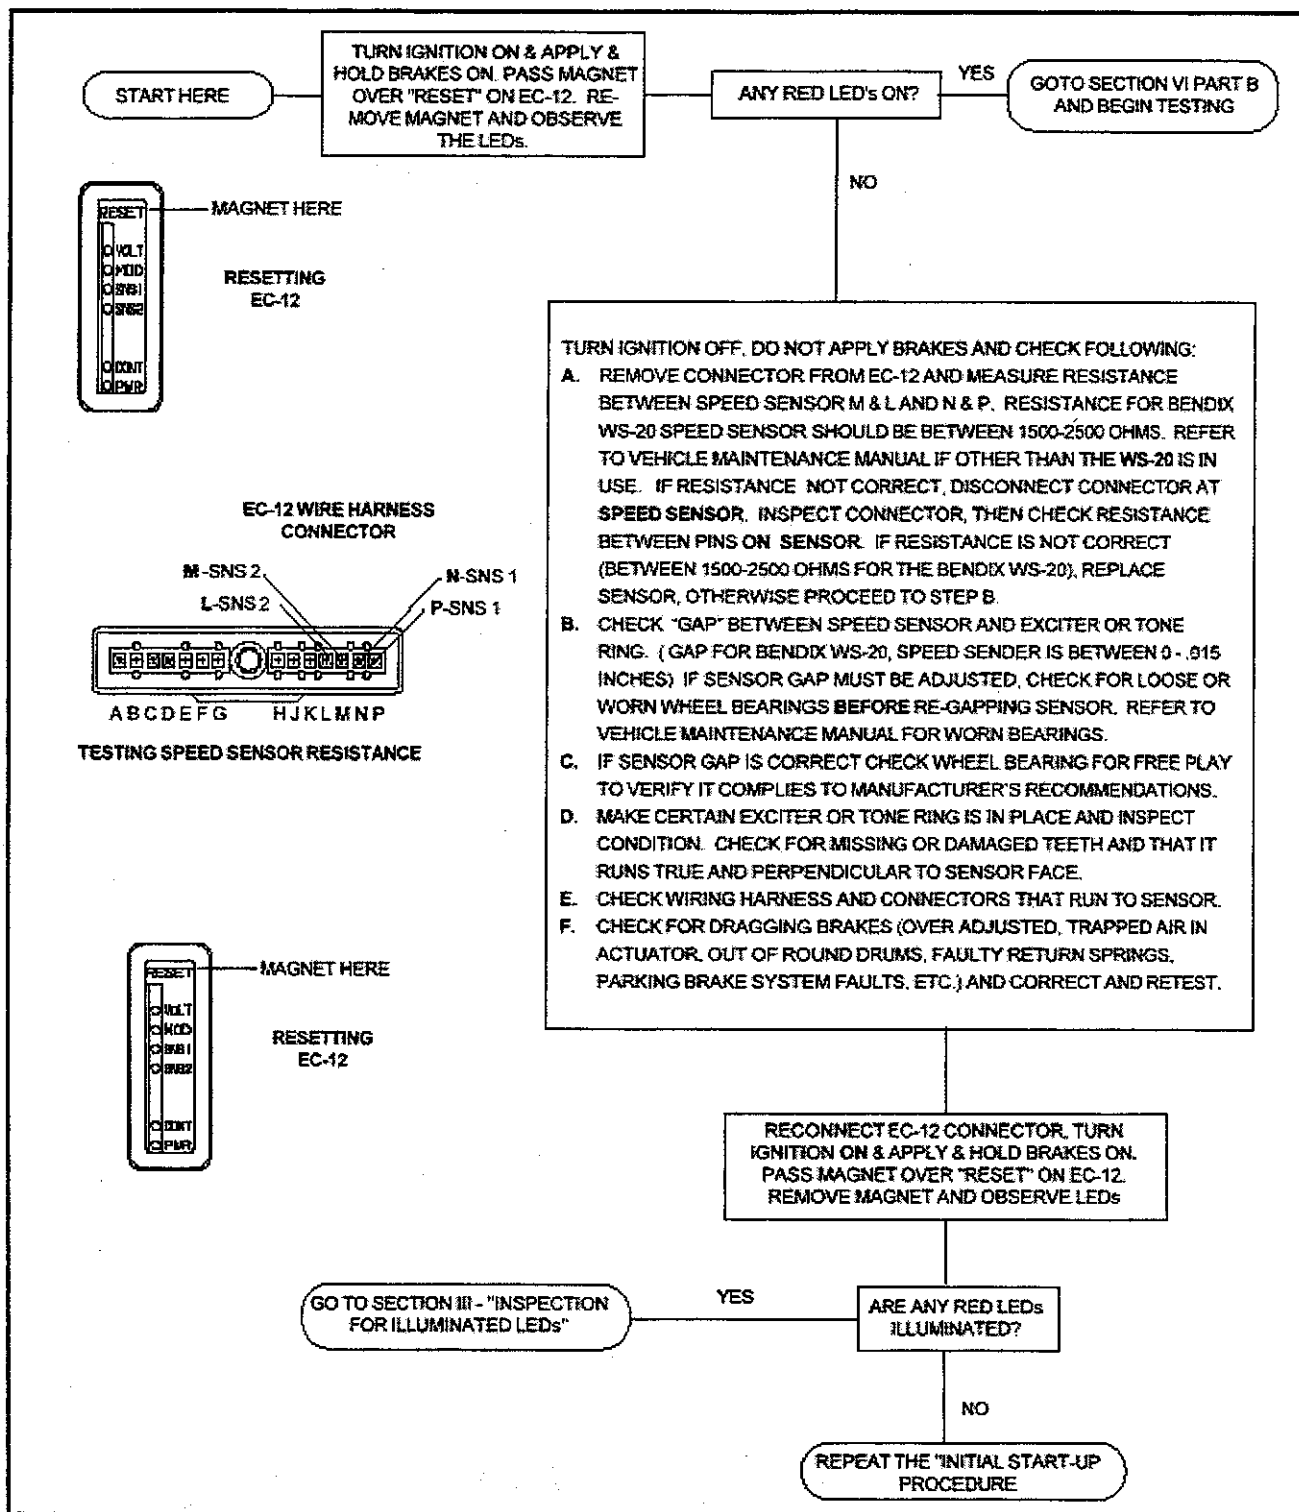

Figure 18—Testing the Wheel Speed Sensor
- See Figure 18—Testing the Modulator